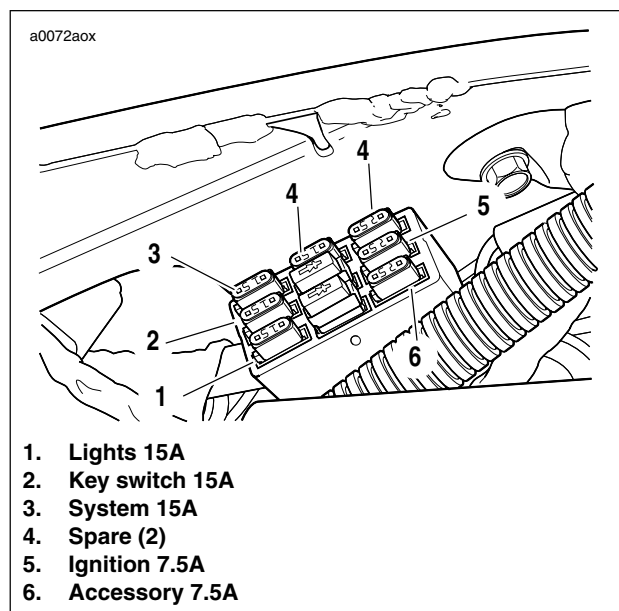

Figure 7-78. Fuse Block
See Figure 7-78. The fuse block is on the right side of the frame under the seat. The block contains five replaceable fuses. Two spare fuses (4) are attached to the fuse block.